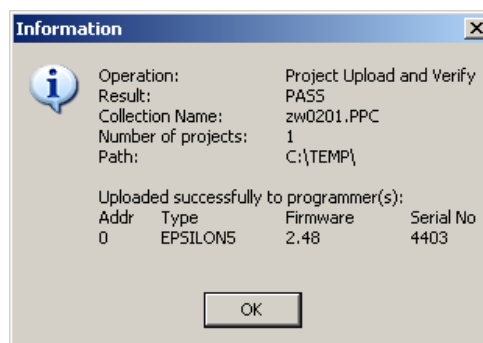

Figure 25 Programmer Upload Wizard – Result window
8. Press *Upload and Verify* and when the upload process is done a window like the one depicted in Figure 25 will open. If not go to the troubleshooting section in Appendix B.